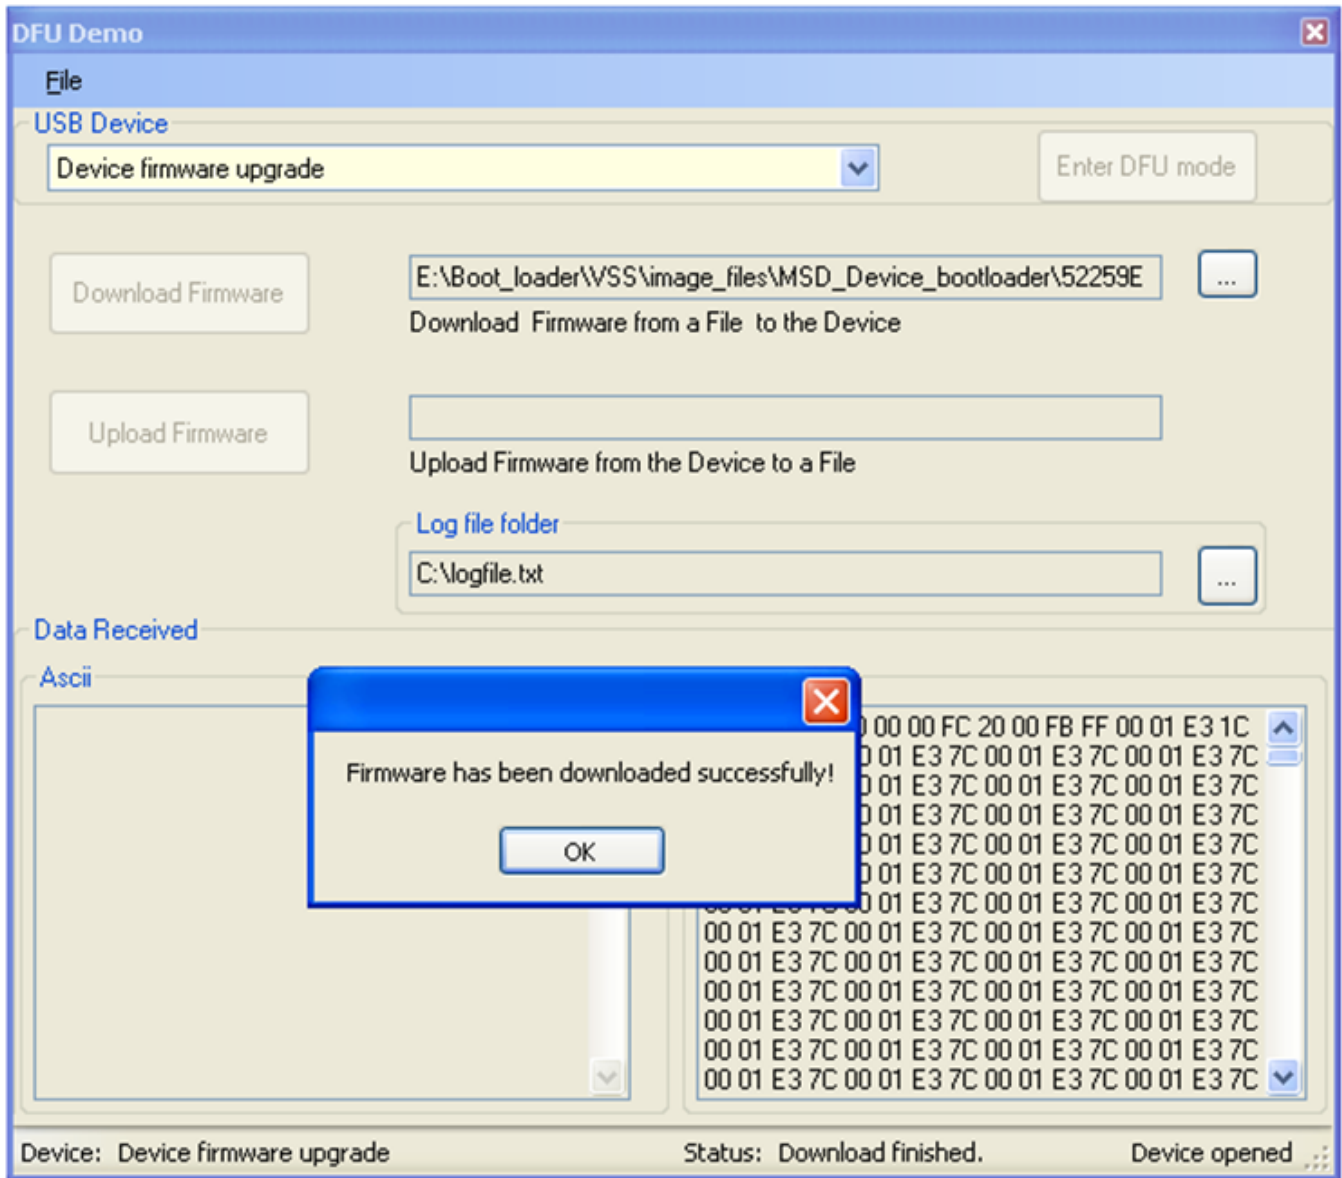

Figure 21. Download is completed
1. At this point, Driver installation must have already been completed. Using the USB DFU PC Application, select a firmware image file for download to the device as shown in Figure 21. The files generated in Building the application can be used for this step.